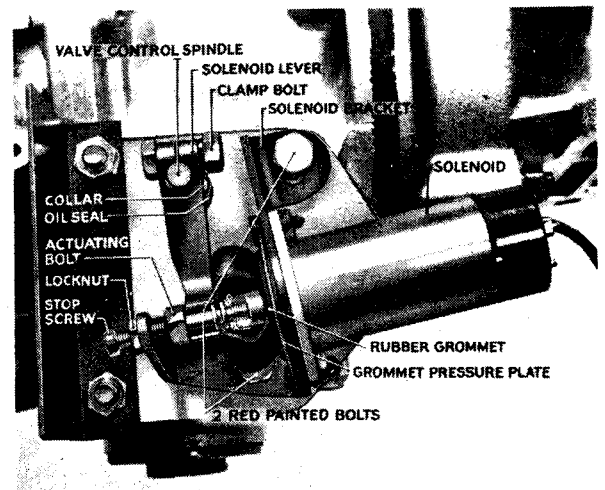

Fig. 28 Solenoid Operating Details in assembled form.
6. Fit the solenoid lever to the actuating bolt as shown in Fig. 28.
12. Fit the actuating bolt stop screw and locknut (Fig. 28). By holding the operating lever against the head of the actuating bolt and moving the lever, a certain amount of free travel should be felt. Adjust the stop screw until this free travel is reduced to  $\frac{1}{16}$ " when not in overdrive and then tighten the locknut. It is important that there should be lost movement at this point.